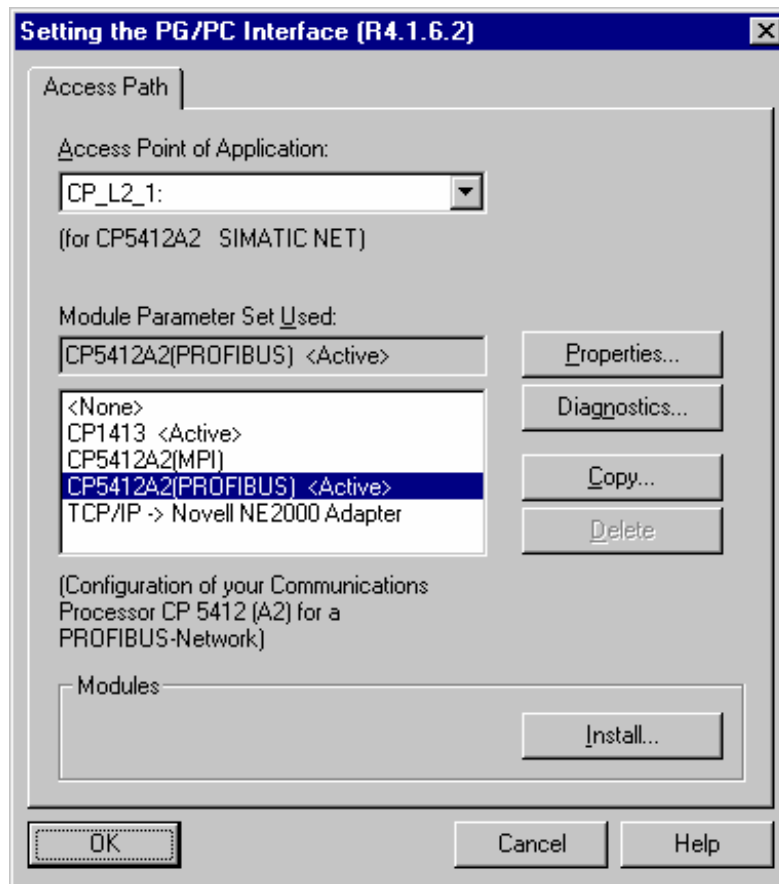

Figure 4.
15. Click Install button at the lower right corner of the dialogue box, , see figure 4.